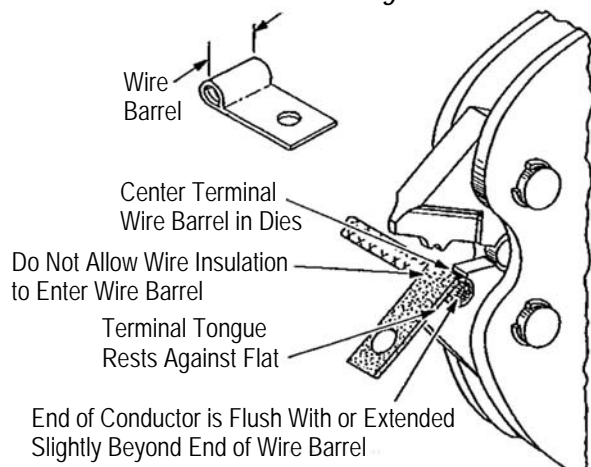

Figure 6
When using heads that have three (3) die closures, make certain terminal or splice is placed in correct closure for the wire size being used. When crimping flag terminals, make certain terminal tongue is held against flat of lower jaw until crimp is started. See Figure 6.